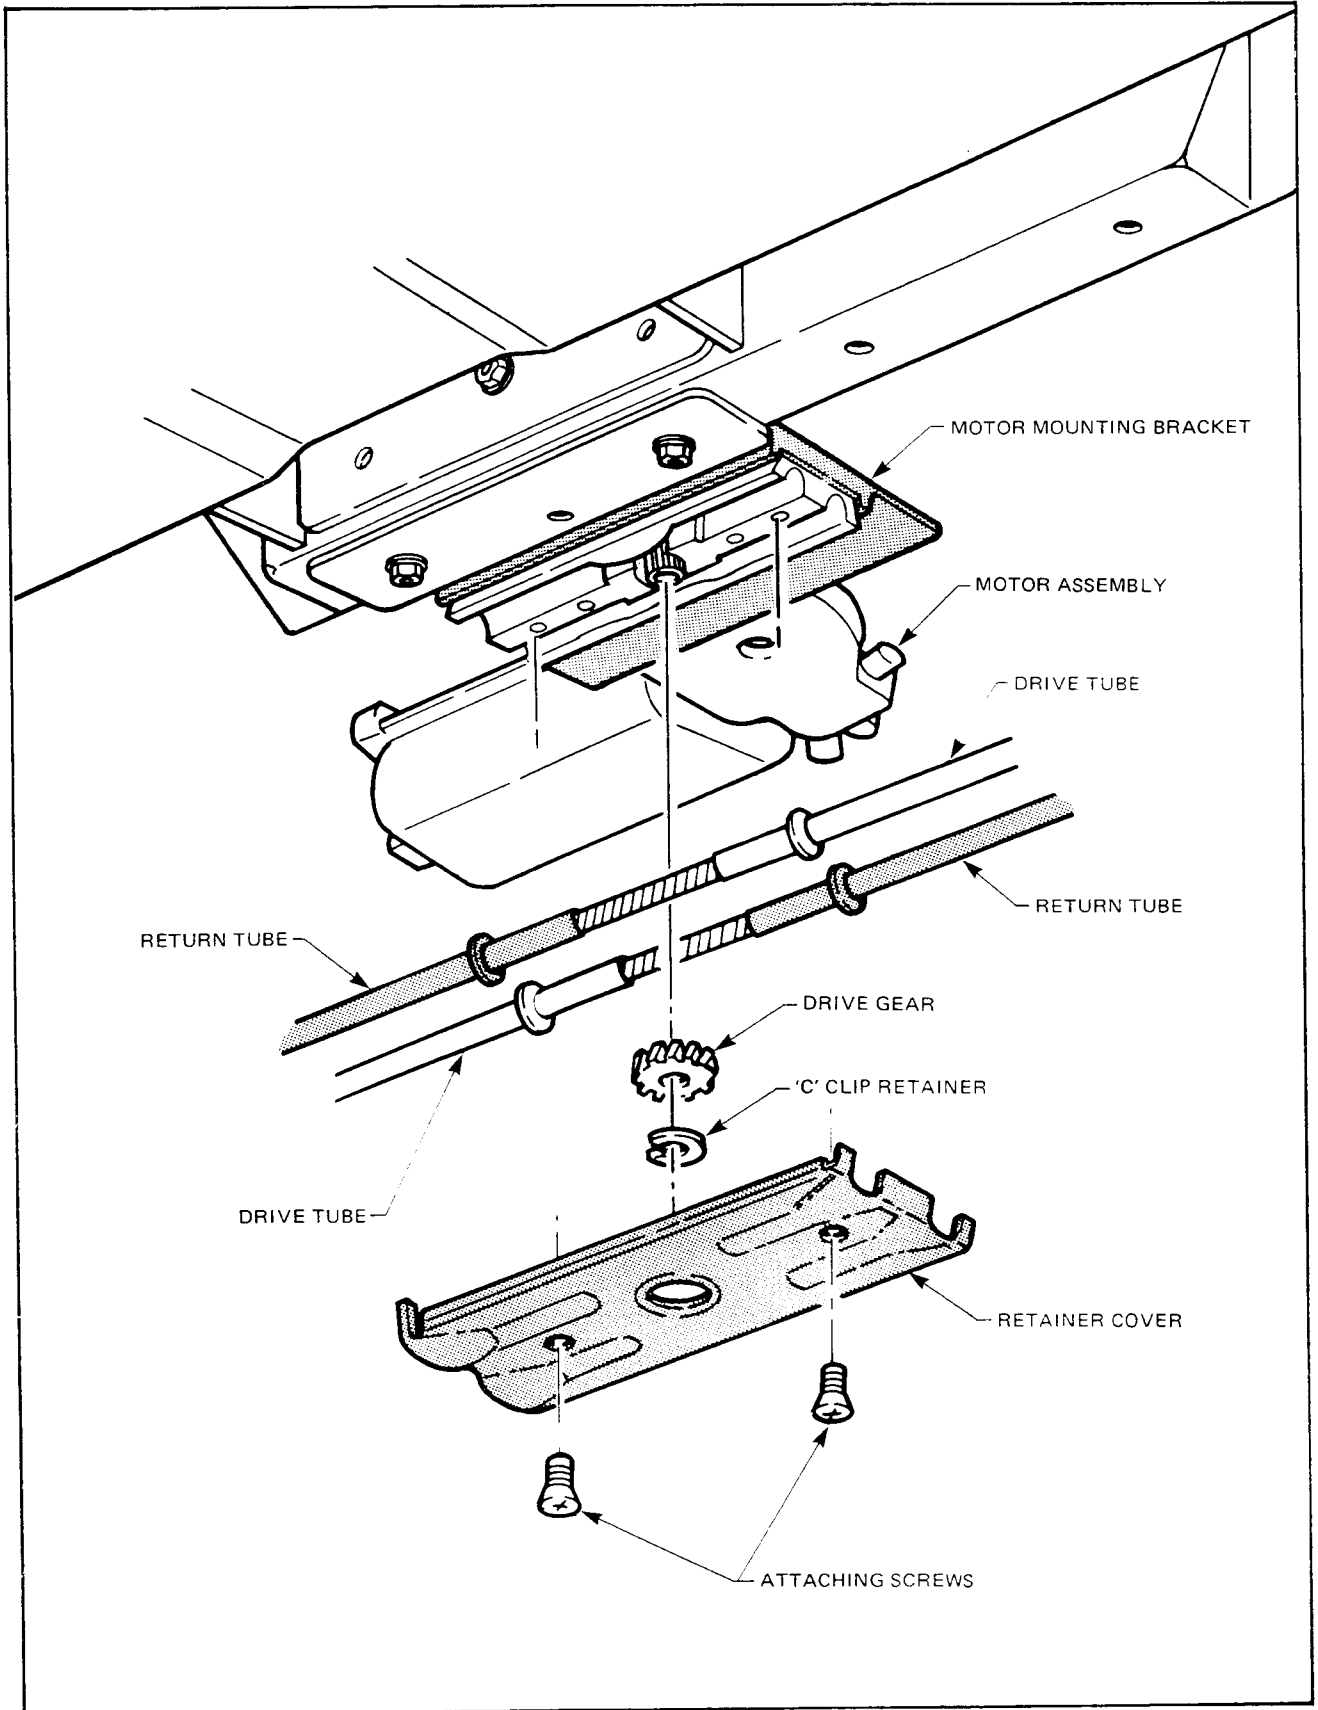

Figure 1A-76
4. Remove sliding panel as described in 8.4 Sunroof Sliding Glass Panel, Remove and Reinstall (refer Fig. 1A-69).
5. Move trough rod and cable assemblies rearward of notch in track, to slide front guide shoes rearward to notch, rotate and remove (refer Fig. 1A-77).